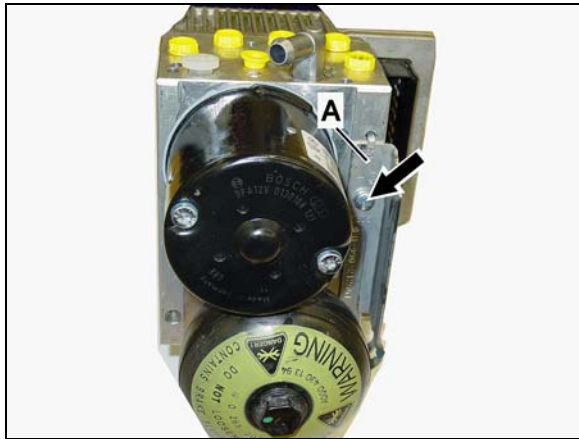
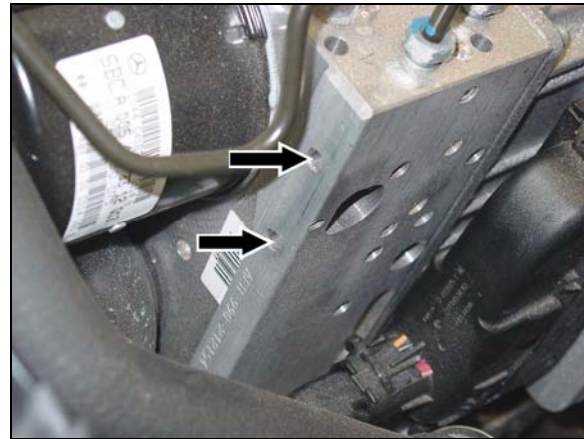

Figure 20
Figure 21
- Using hand tools, tap threads into SBC hydraulic unit bores (arrows, Figure 21) by running self tapping screw (arrow, Figure 20) into lower bore **without** mounting bracket positioned on SBC unit.
- In the event self tapping screw (arrow, Figure 20) is broken during installation of bracket (A) perform step 21 then continue with campaign (installation of bracket due to breakage of mounting screw will **not** be covered under warranty).
- Position bracket (A) on SBC hydraulic unit, reinstall self tapping screw (arrow) and **torque to 7 Nm**